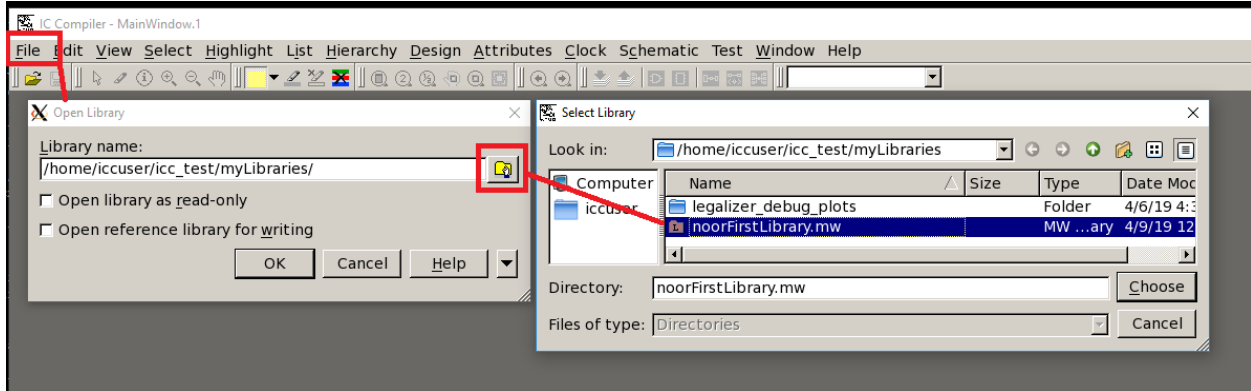

Figure 5
- III) Now we have to open a design library from the gui as shown in figure 5.